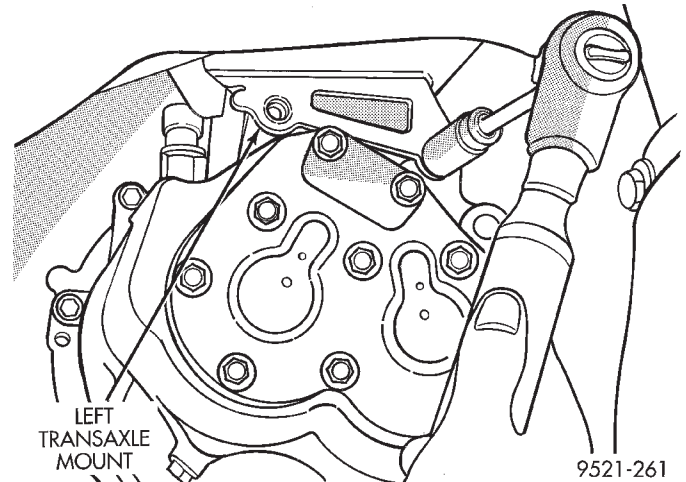

Fig. 29 Left Mount Lower Bolts
- (18) Remove left lower splash shield/battery cover.
- (19) Remove left transaxle mount lower bracket bolts (Fig. 29).